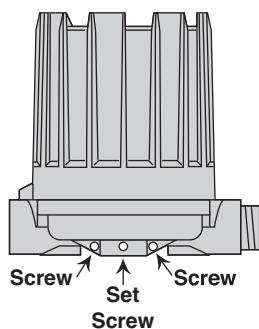

Figure 1
1. Loosen set screw(s) at base of switch housing. Refer to **Figure 1**.
14. Loosen the set screws at the base of the switch housing. Rotate switch housing to correct position and tighten set screws. Refer to **Figure 1** on page 5.